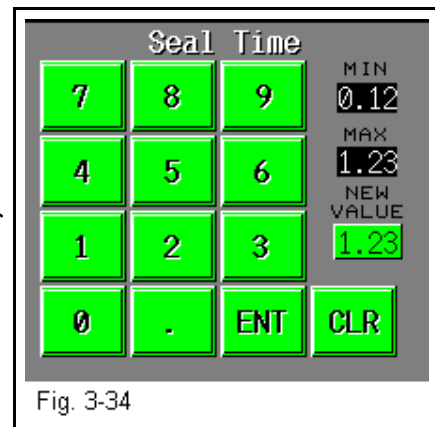

Fig. 3-34
Displays, in seconds, the time the pressure (rubber) bar will remain touching the surface of the bag for proper sealing. Sometimes referred to as "dwell time", seal time is one of three critical components to obtain a strong seal (other critical factors include seal temperature and seal pressure). To adjust the Seal Time value, touch the highlighted <Seal Time> menu option to display a number pad. To change the setting, press the number (decimal point first, if less than 1) and then press <Enter>. To clear an incorrectly pressed value, press the highlighted <Clear> button and retype the correct value. Pressing <Enter> will return you to the Bag Setup Screen. Test and further adjust if necessary. See Fig. 3-34.
*CAUTION: To avoid physical harm, DO NOT cycle the T-1000 in the AUXILIARY mode without the funnel(s), funnel extension(s), guard(s) and covers in proper position. Since the seal bar actuates automatically, operators must keep fingers, hands and other parts of the body well away from the sealing mechanism and all other moving parts at all times. See Fig. 3-34.*